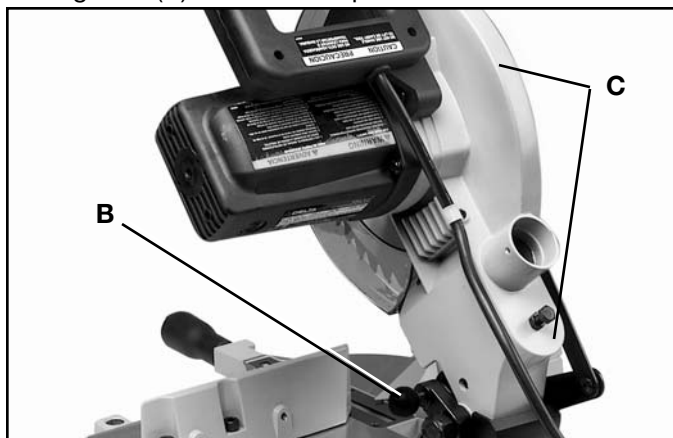

Fig. 4
2. Fig. 4, illustrates the lockpin (B) pulled out and the cuttinghead (C) in the raised position.